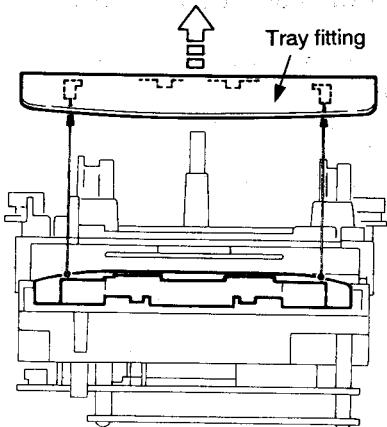

Fig. 7-9
■ How to Remove the CD Tray (Refer to Figs. 7-9~7-13)
5. Remove the two screws (12) playing a role of CD tray stopper, and pull out the CD tray.
6. After removing the four screws (13) retaining the CD clamer base, dismount the base from the loading base while raising it from the rear side.